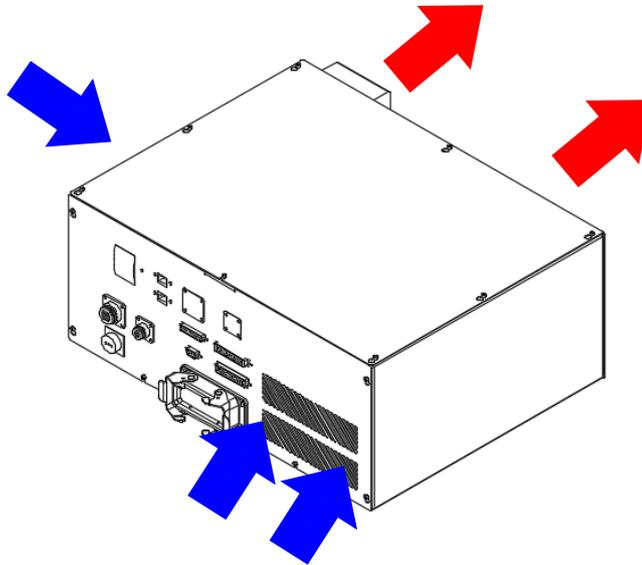

Figure 2.6 Controller cooling
1. The controller uses forced fan cooling; in order to keep the cooling cycle working well, when installing the robot controller sufficient room must be left with neighboring objects and the baffle (wall), or else it may cause malfunctioning. Please refer to the controller installation space shown in Figure 2.6